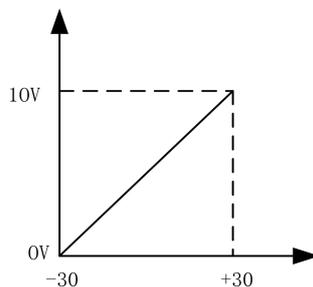

Fig. 4-30 Correspondence of voltage deviation value in Unitary mode
3. Under synergic mode, the proportional diagram of voltage correction over synergic value is shown in Fig. 4-30.